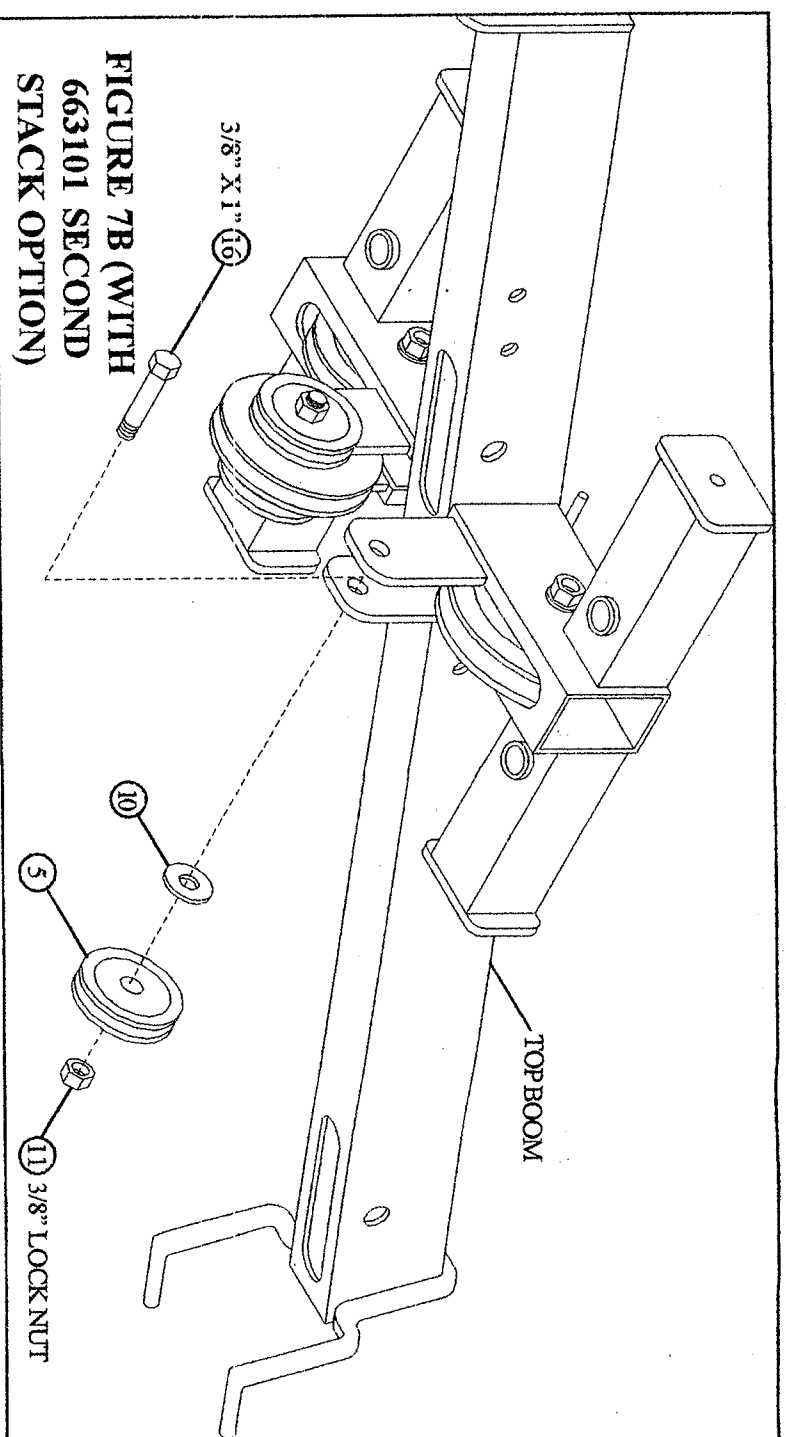

FIGURE 7B (WITH
- SECURELY assemble one 3/8 X 1" BOLT (16), one 3/8" WASHER (10), one 2" PULLEY (5) and one 3/8" LOCK NUT (11) to the bracket on the TOP BOOM as shown in FIGURE 7B.